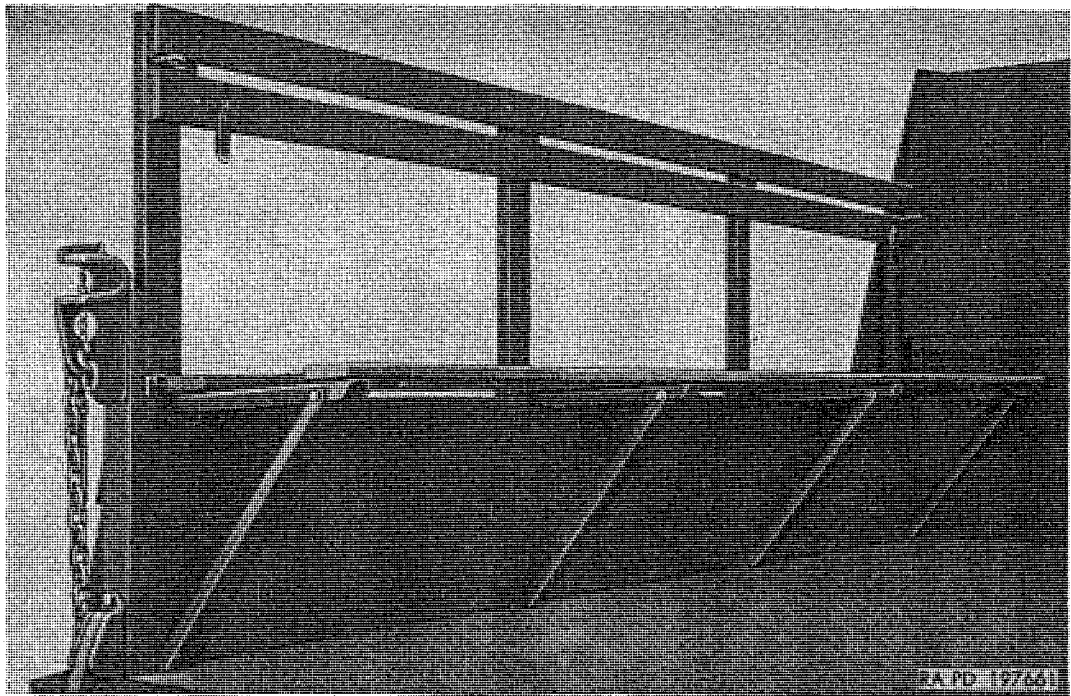

Figure 51. Side racks and troop seats installed.
e. *Use of Side Racks.* Side racks with integral troop seats can be positioned in body as illustrated in figure 51.